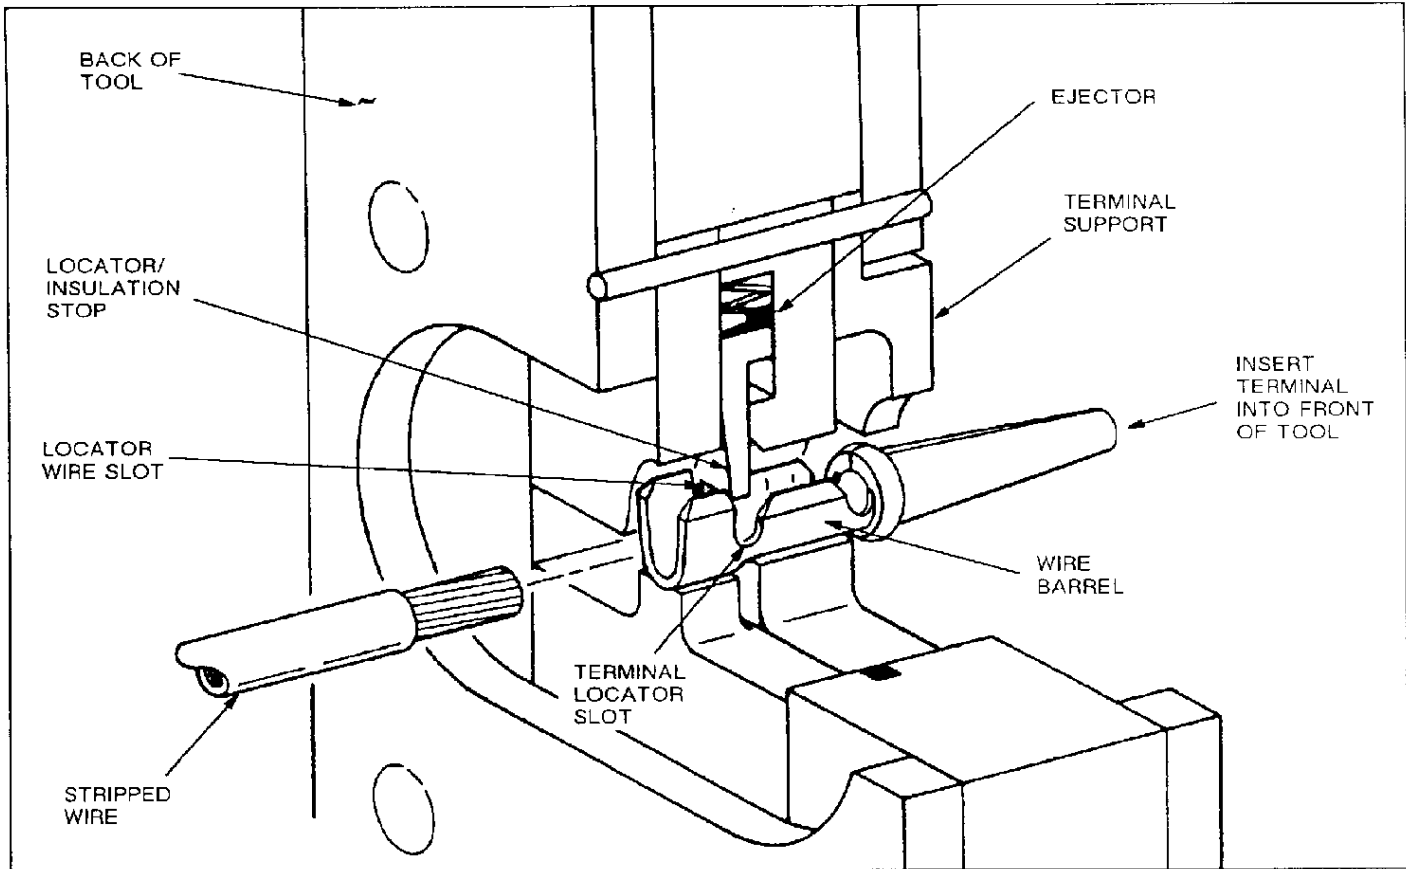

Fig. I-3
The locator/insulation stop positions the terminal between the crimping dies and aids in locating the wire in the terminal. In use, it rests in the terminal's locator slot. Refer to Figure I-3.
1. Hold the tool so the BACK of it is facing you. See Figure I-3.
3. Looking straight into the crimping dies from the BACK of the tool, insert a terminal (insulation barrel first) into the FRONT of the tool. See Figure I-3.